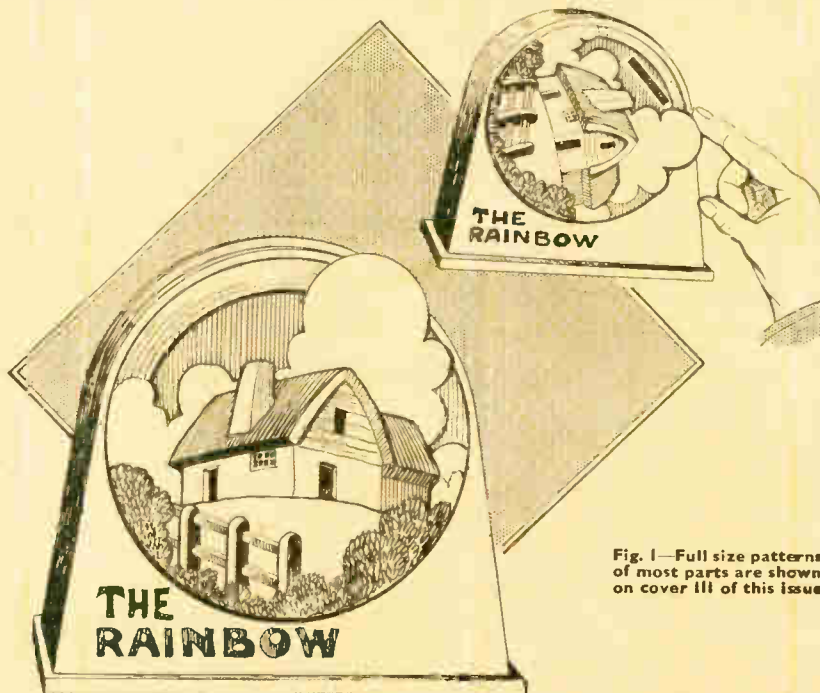
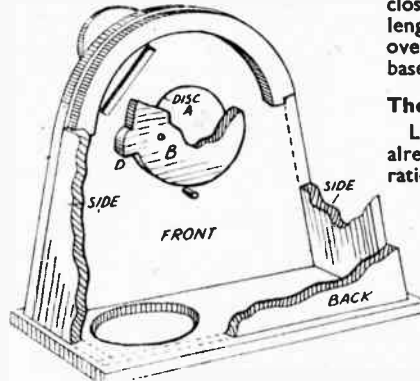

Fig. 1—Full size patterns of most parts are shown on cover 111 of this issue
Fig. 3—Cut-away view showing construction
The novelty of the box lies in the hidden slot through which the coins pass to the box itself. On the front face of the box there is, what at first glance might be taken to be, a fixed decorative overlay, cut to the same curve as the top of the box. This overlay, however, is not definitely fixed, but is pivoted artfully to the front of the box so that it may be moved downwards with the forefinger, as shown in the smaller illustration in Fig. 1.
position shown in the sectional diagram Fig. 3. Glue, most likely, will be found insufficient to hold disc (B) securely to disc (A), as the latter will lie flush with the surrounding wood of the front. It might even be necessary to glasspaper the surrounding wood, thus allowing the surface of the disc to very slightly protrude above that level.
The stop pin shown on the pattern and in the diagram Fig. 3, must be correctly placed in relation to the lug (D), so when the overlay is pulled down it stops at the required spot, allowing full view of the slot in the front of the box, seen in the smaller sketch in Fig. 1. The free, but stiff movement of the overlay in conjunction with its rear